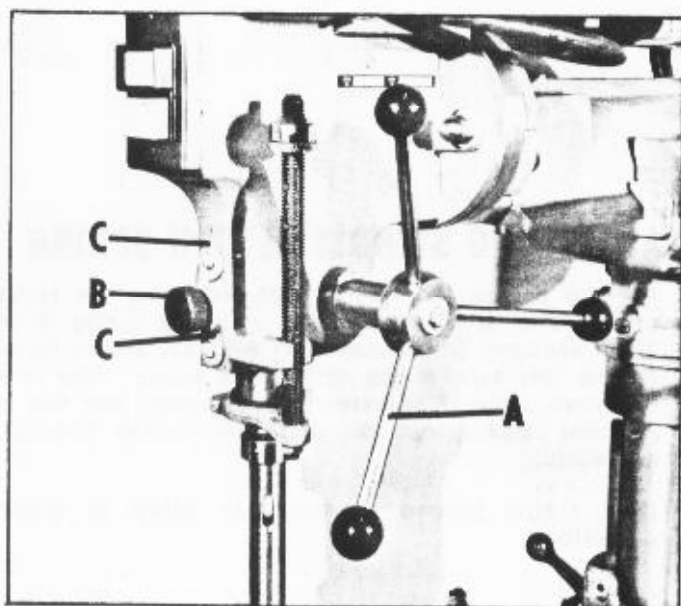

Fig 10
The spindle is raised or lowered by means of the three spoke hand lever (A) Fig. 10. The quill can be locked at any desired point in its travel, by tightening the quill locking knob (B) Fig. 10. This is an especially desirable feature for set-up of tooling for production type operations.
1. Make sure the quill locking knob (B) Fig. 10, is loose.
2. Remove two screws and washers (C) Fig. 10.
6. After proper adjustment has been made, replace screws and washers (C) Fig. 10.